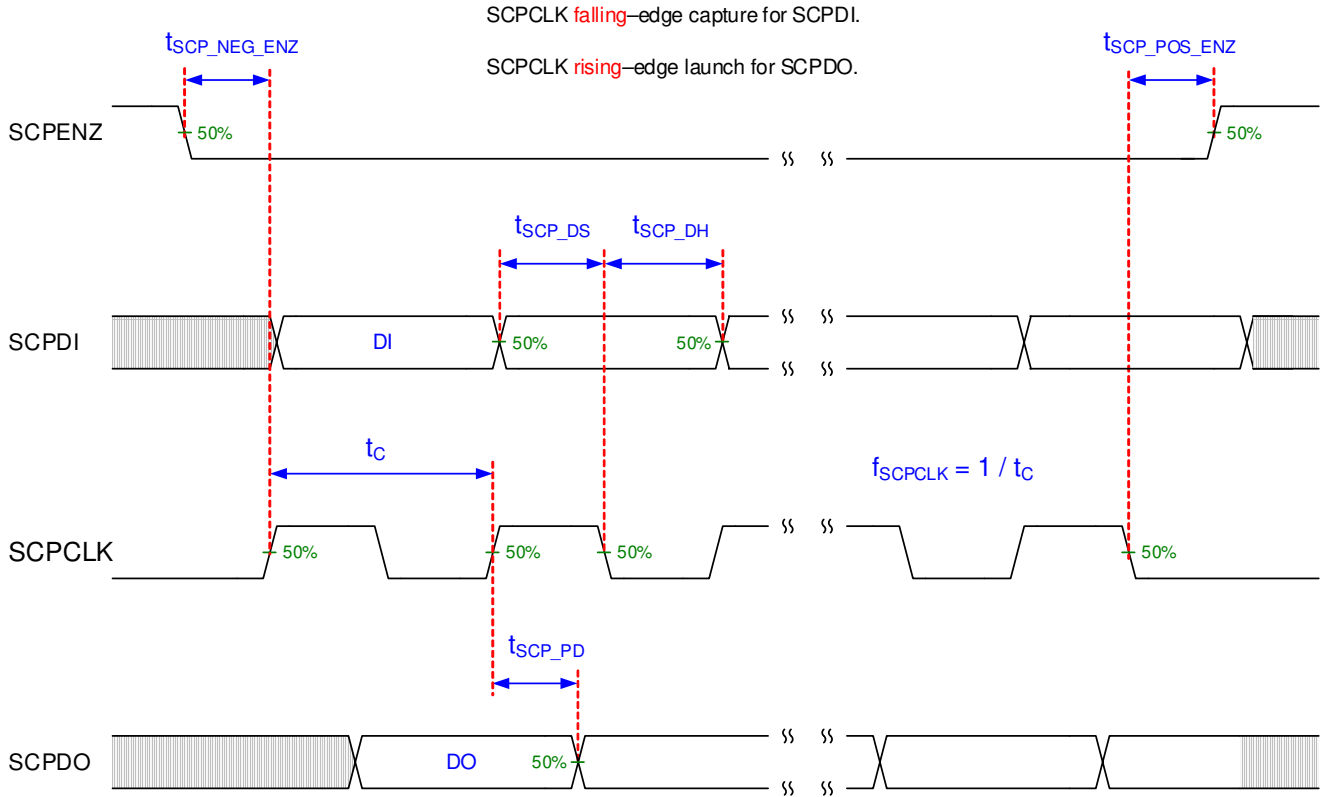

图 5-2. SCP Timing Requirements
- (5) Low-speed interface is LPSDR and adheres to the Electrical Characteristics and AC/DC Operating Conditions table in JEDEC Standard No. 209B, "Low-Power Double Data Rate (LPDDR)" JESD209B. Tester Conditions for VIH and VIL.
- (6) PWRDNZ input pin resets the SCP and disables the LVDS receivers. PWRDNZ input pin overrides SCPENZ input pin and tristates the SCPDO output pin.
- (7) The SCP clock is a gated clock. Duty cycle shall be 50% \pm 10%. SCP parameter is related to the frequency of DCLK.
- (8) See 图 5-2